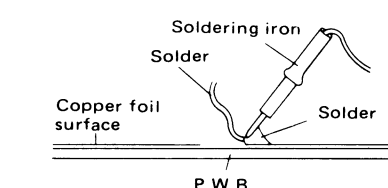

Figure 22-3
- Temporarily solder one terminal of the chip on the copper foil surface. See Fig. 22-3.